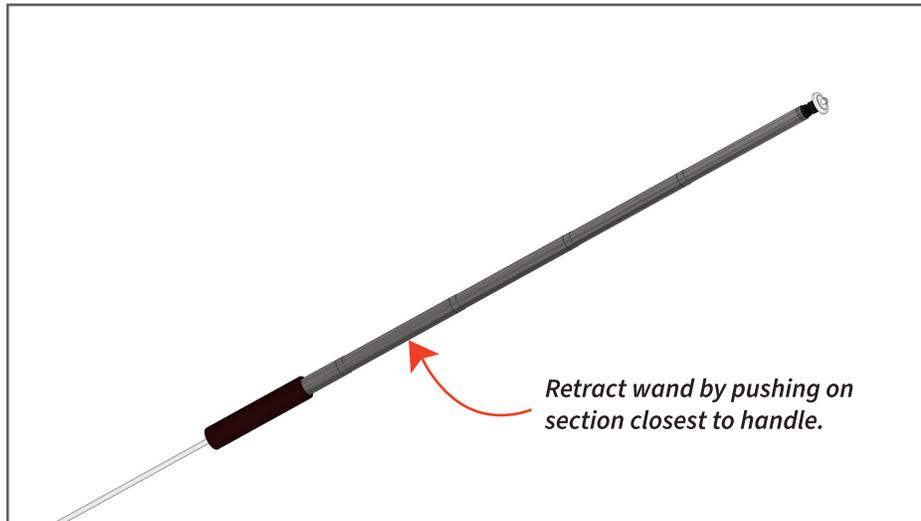

Figure 18: How to retract sampling wand
***NOTE:** To prevent the flexible tubing inside the wand from kinking, retract the wand by carefully sliding the metal sections together. Begin by telescoping the sections closest to the handle. (See figure 18)